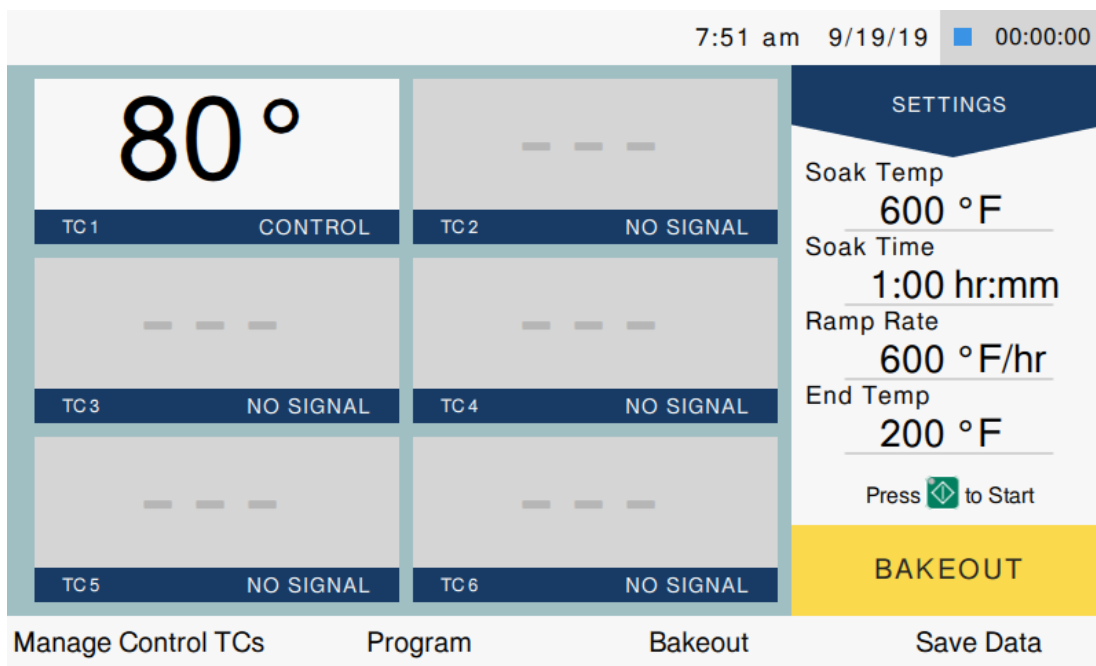
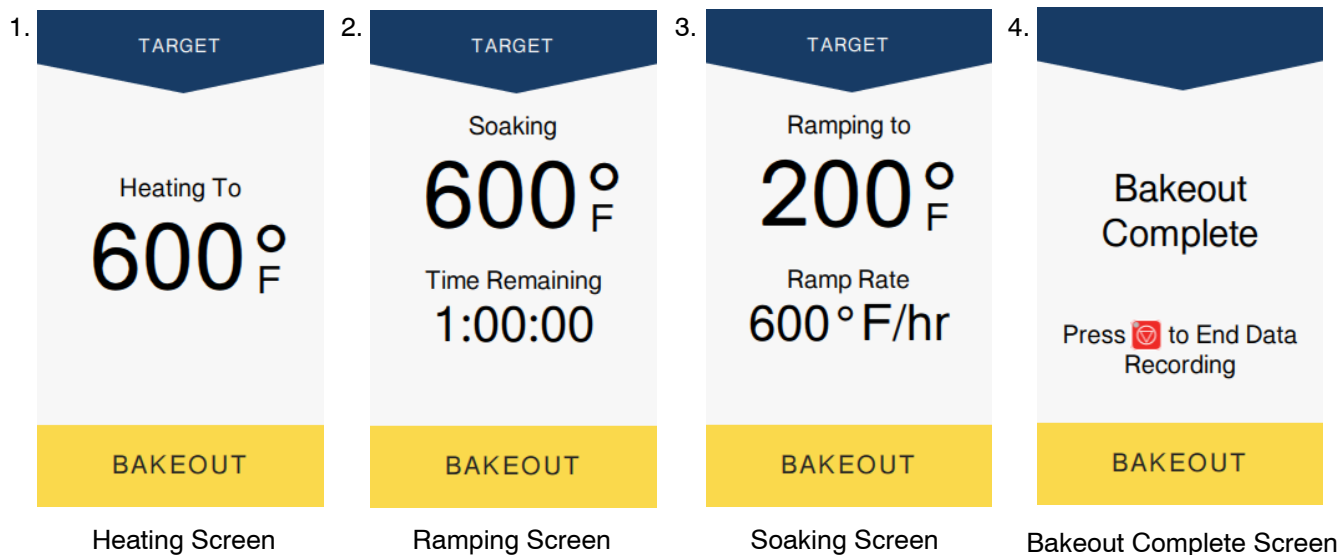

Figure 7-7. Bakeout Heating No Preconfigured Loaded Program Screen
Figure 7-8. Bakeout Sequence Screens
6. If output is off (SETTINGS is displayed), press **[RUN]** to begin heating. The heater will ramp up to the Bakeout Target Temperature, Soak for the programmed duration and Ramp down to the End Temp. See Figure 7-8 for example screen images.
When **[Run]** is pressed, the heater will ramp to the Bakeout Target Temperature, Soak for the programmed duration and Ramp down to the End Temp. See Figure 7-7 and Figure 7-8.